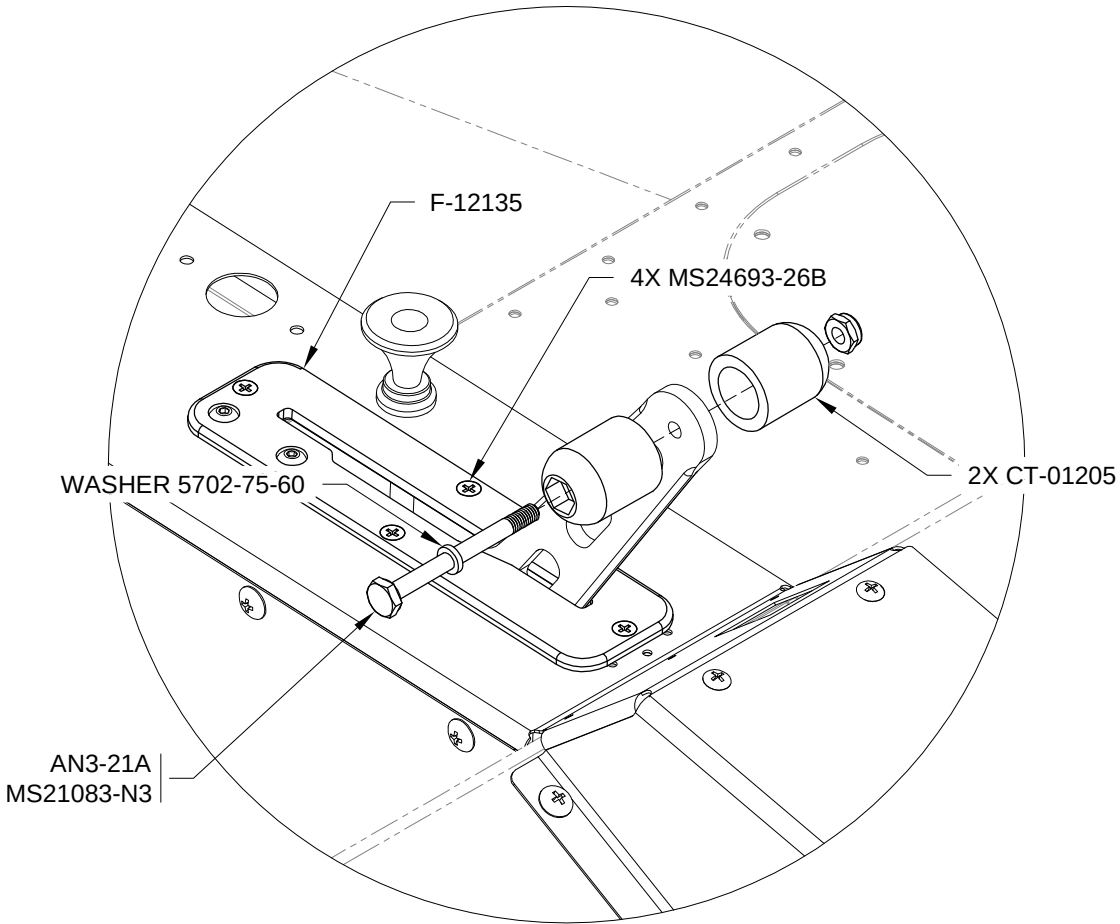

FIGURE 2: THROTTLE GUIDE & T-HANDLE
Step 4: Install the CT-01205 using the hardware shown in Figure 2.